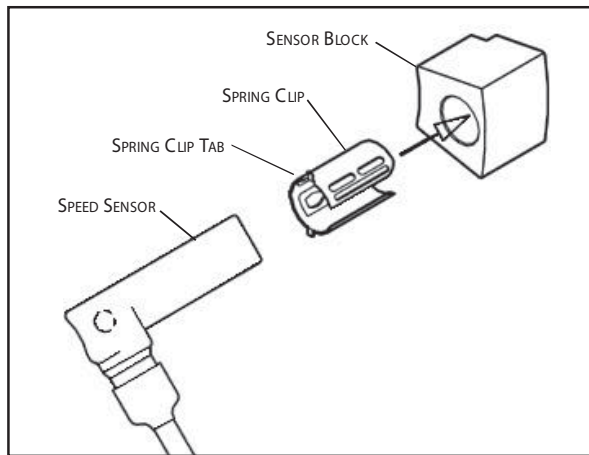

Figure 11
7. Remove the fixture tool and let the sensor block cool after cool down, install the sensor spring clip and sensor as illustrated in Figure 11.